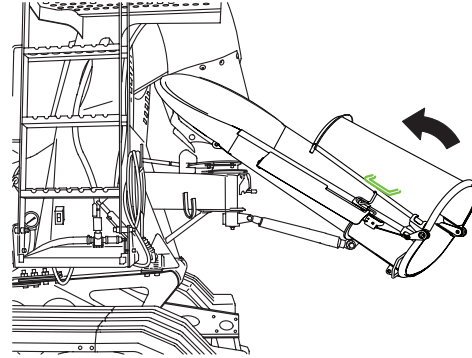

Figure 113
2. Slowly raise the chute into stored position (Figure 113).